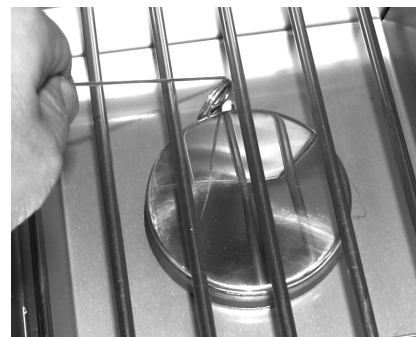

Fig. 33-2 Manual lighting
2. Insert either a burning long-barrel butane lighter, a burning long-stem match, or a burning match held by a wire extension holder through the cooking grid opening to the burner (Fig. 33-2). Hold the flame against the edge of the burner.
4. If the burner does not light within five (5) seconds of turning the control knob, **immediately depress the knob and turn the valve to OFF**. **WAIT FIVE (5) MINUTES** before repeating steps 2 through 4 of the **MANUAL LIGHTING** instructions.